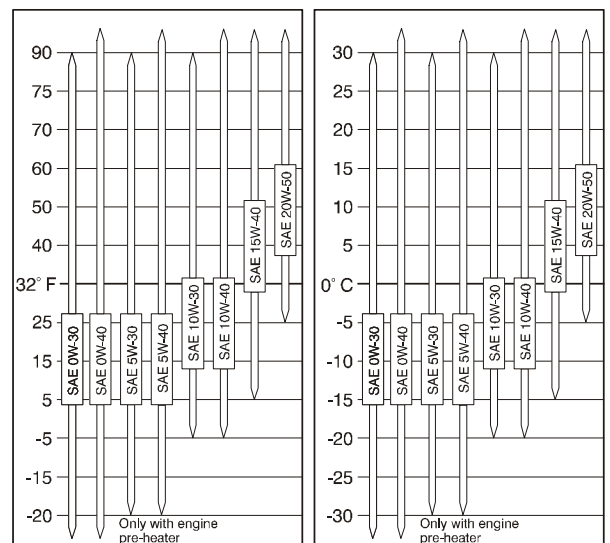

Figure 3-78. Engine Oil Viscosity
8. Refer Section 1 for capacity and refer to Figure 3-78, Engine Oil Viscosity for the proper grade.